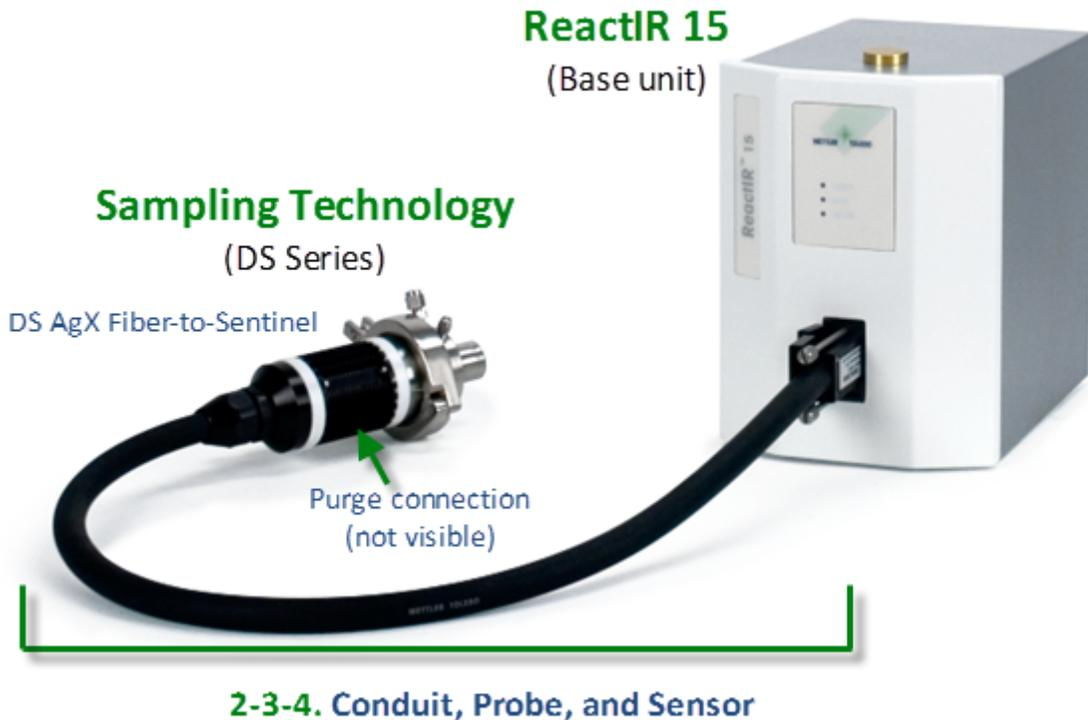

Figure 5-6 ReactIR 15 with DS Fiber-to-Sentinel sampling technology
3. If using DS Fiber-to-Sentinel sampling technology, apply 10psig of dry air to the inlet on the Sentinel (see Figure 5-6 on page 34).